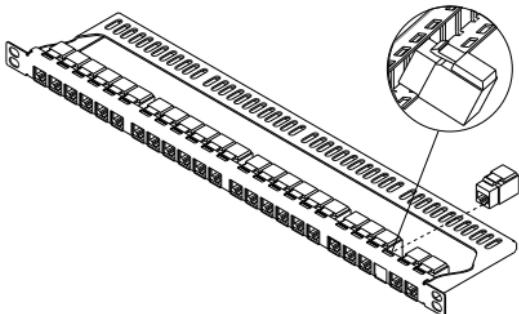

Рисунок 4 – Установка модуля Keystone в патч-панель PP24-D05UMCxU-D05H / Figure 4 – Installing the Keystone module in PP24-D05UMCxU-D05H patch panel
- install fully mounted Keystone modules into the patch panel until they click as shown in figures 4 and 5;